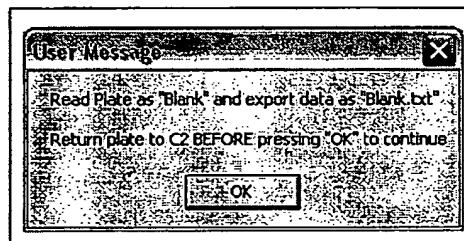

Figure 4.37
2. When the User Message appears, as illustrated in Figure 4.37, click OK.
When the User Message appears, as illustrated in Figure 4.37, do not click "OK" until Step 6 of Second Quantitation on page 76.